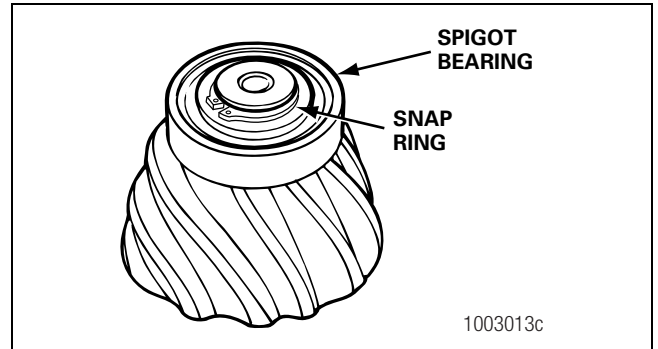

Figure 3.30
8. Remove the snap ring, if equipped, from the end of the drive pinion with snap ring pliers that expand. Figure 3.30.